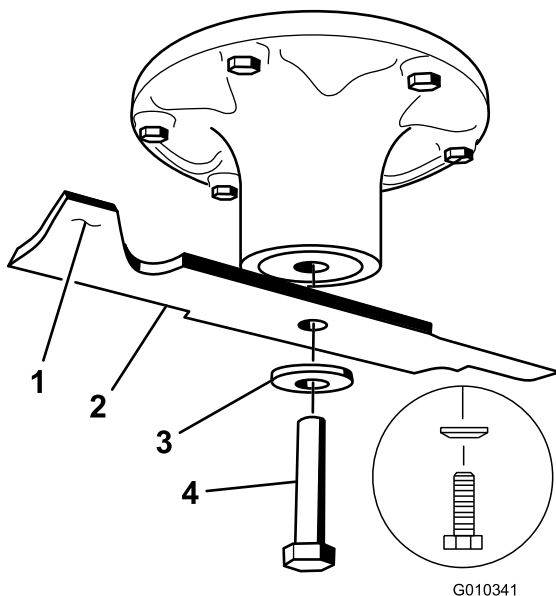

Figure 55
Hold the blade end using a rag or thickly-padded glove. Remove the blade bolt, curved washer, and blade from the spindle shaft (Figure 55).
- A. File some metal off the end of the sail area only (Figure 55).
1. Install the blade onto the spindle shaft (Figure 55).
2. Install the spring disk and blade bolt (Figure 55).